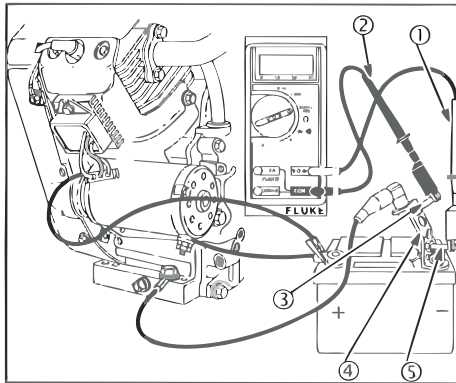

Figure 18
The DC Shunt **MUST** be installed on the **NEGATIVE (-)** terminal of the battery, (Figure 18) to avoid blowing the fuse in the meter when testing the output of the 20 amp system. All connections must be clean and tight for correct readings.
2. Install DC Shunt (4) on **NEGATIVE** battery terminal.
3. Insert **RED** test lead into **VΩ** receptacle in meter and connect to **RED** post terminal on shunt (5), Figure 18.